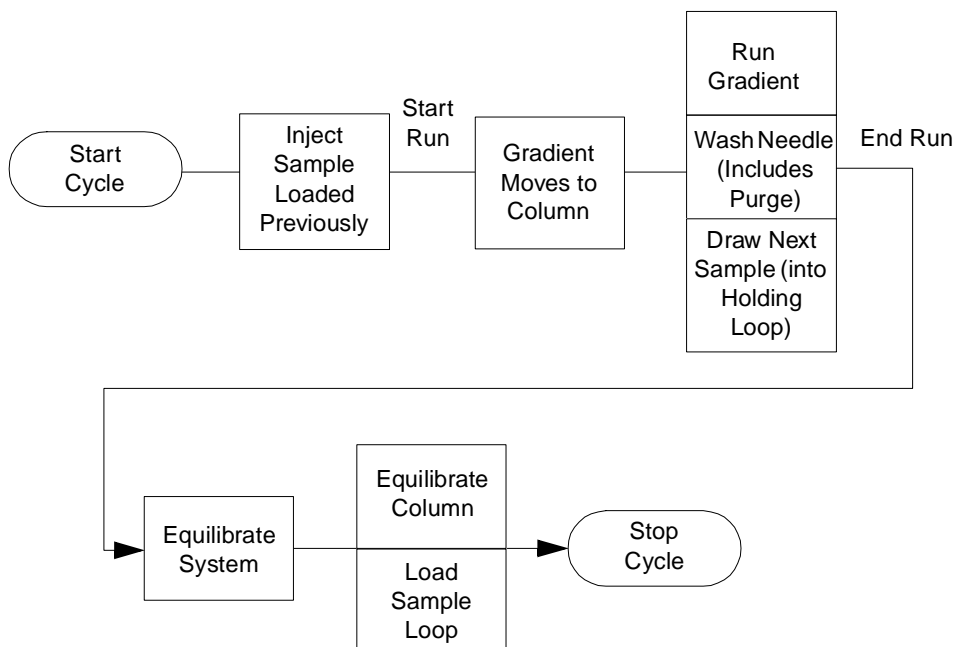

Figure 6-8 Parallel Processing Cycle for Gradient Chromatography
- **Parallel processing** – Some operations are performed concurrently (Figure 6-8).
In parallel processing, the 2795 Separations Module draws the next sample into the holding loop after the needle wash and purge is complete (Figure 6-8). You can specify a time to take the sample loop off-line to load the sample.